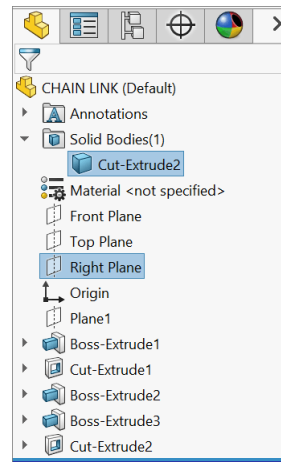

Fig. 37
Step 1. Expand Solid Bodies folder in the Feature Manager. **Ctrl click Cut-Extrude2** body and **Right Plane** to select Body and Plane, **Fig. 37**.